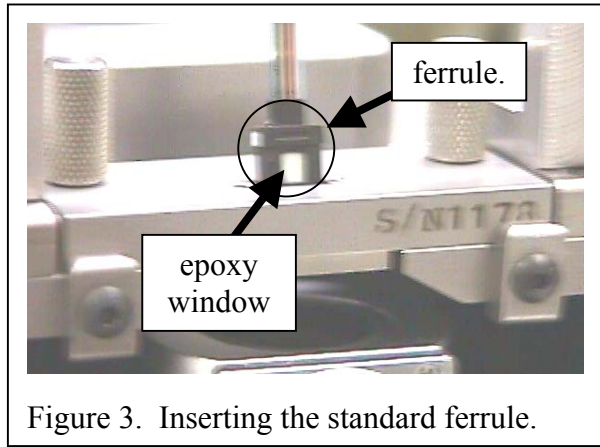

Figure 3. Inserting the standard ferrule.
4. Insert standard ferrule. The standard ferrule used here can be either a ferrule designated as a “Gold Standard Ferrule” or a “Working Standard Ferrule”. Use the same procedure for either type of ferrule. Insert the standard ferrule with the epoxy well facing the front of the interferometer. See Figure 3. Push the standard ferrule all the way down into the ferrule mount until the ferrule bottoms out.